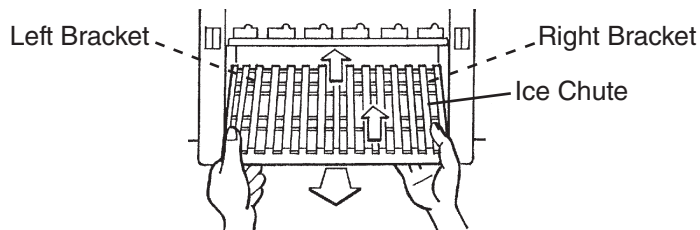

**Fig. 34**
- 3) Remove each separator by lifting it to the horizontal position and pushing it hard inward. See Fig. 34.